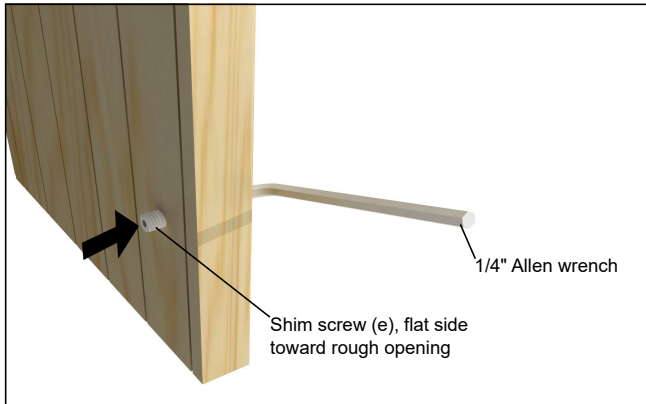

Figure 16
1. Place head jamb and side jamb, interior side down, on a clean flat surface to the interior side of the opening in the correct configuration. Install adjustable shim screws into the head jamb and side jamb with 1/4" (6) Allen wrench. See figure 16.